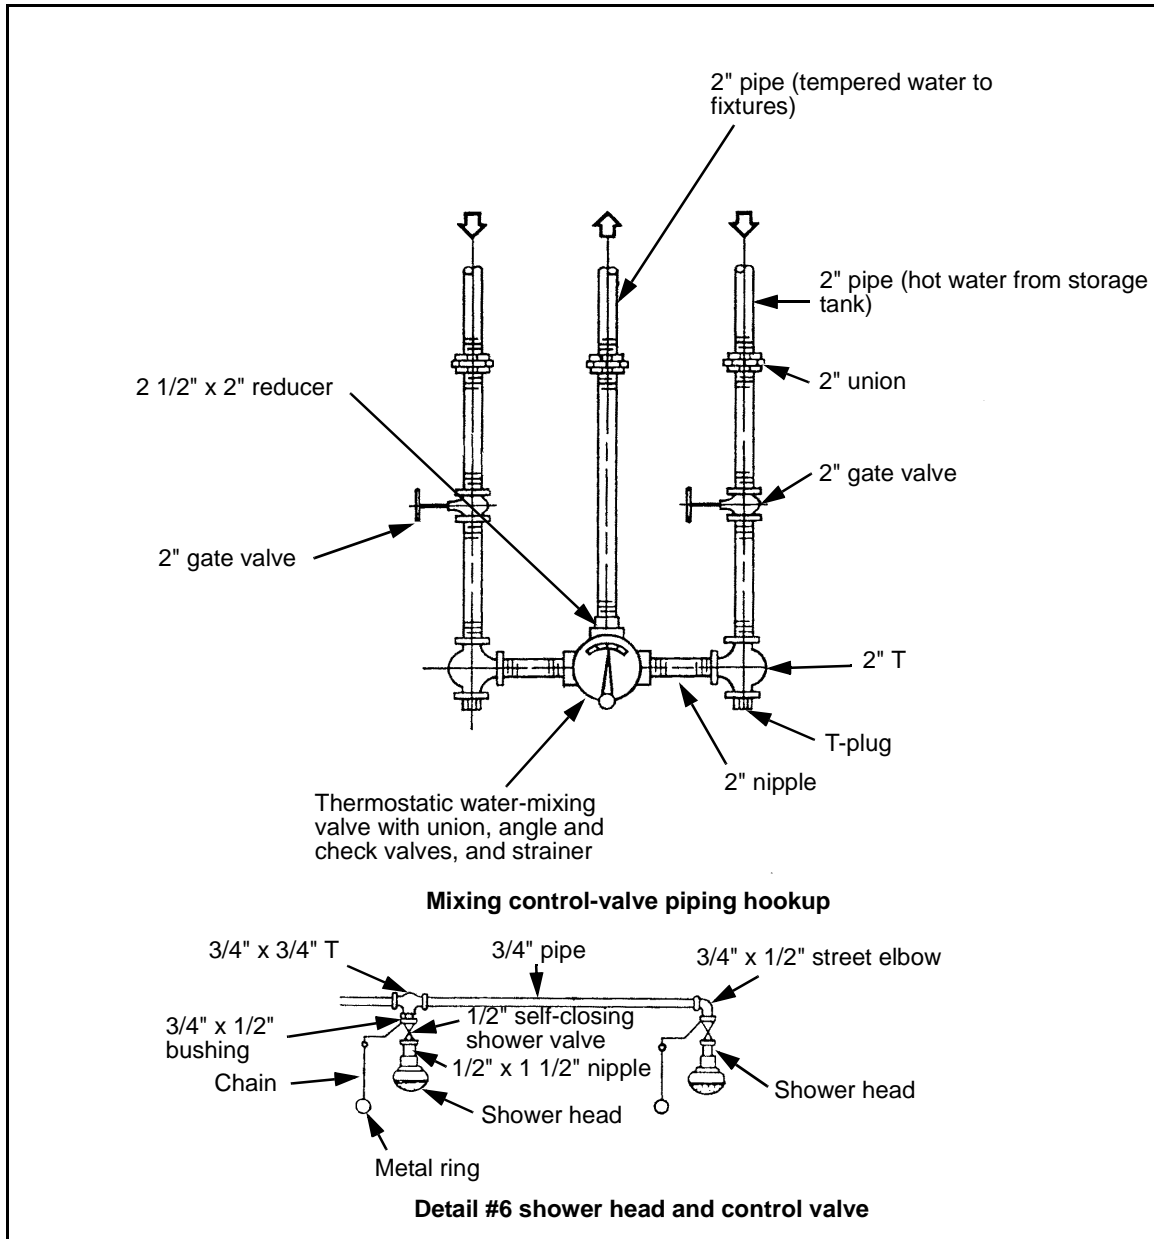

Figure B-4. Special Detail Drawings (Bathhouse and Latrine)
- A special detail drawing of the control-valve and showerhead-fitting requirements (*Figure B-4*).